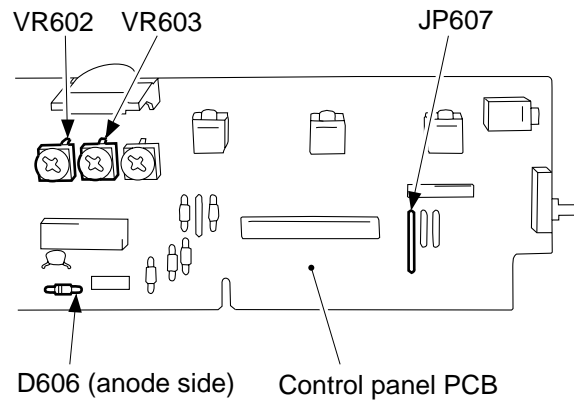

Figure 10-205B
- 10) Turn VR603 (AE gain adjustment) until the voltage between the anode side of the diode (D606; it) and JP607 (GND) is 1.8 ± 0.1 V; see Figure 10-205B.